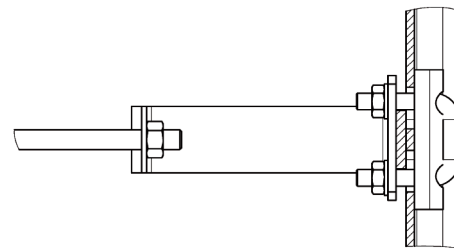

Fig. 2 Attaching the ladder using the wall mounting brackets Model 0544.10/Model 0944.10
2.2 Commence assembly of the lower section of ladder under consideration of the Points 1.3, 1.4, 1.7, 2.4, 2.5 and 2.6. Hold the ladder with the wall mounting brackets (Figs. 2 – 4a) perpendicular against the wall at the intended place with the slip protection pointing upwards. **Attention:** If a wall mount is assembled directly underneath the rung the wall mount is assembled upside down (Fig.4a). Mark holes for drilling.